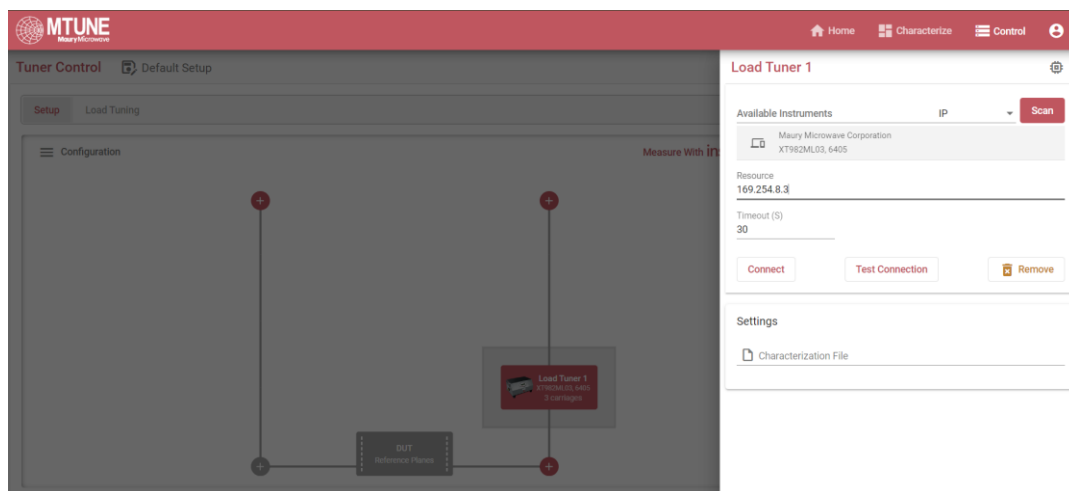

Figure 3. Available Instruments
- Under available instruments (see Figure 3), select the type of connection (NI Visa, USB or IP), and enter the corresponding resource: